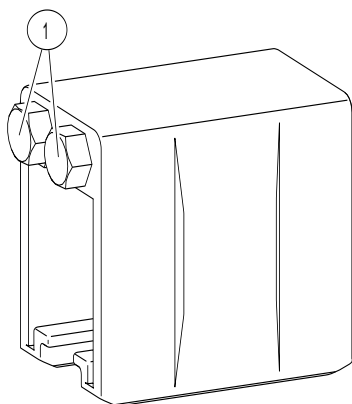

Fig. 86: Side screws on the anchor clamp
- Tighten the two side screws (Pos. 1) (see Fig. 86) on the anchor clamp with the specified torque (SW 8, torque wrench: **10 Nm**). If present, the adjusted air gap of the expansion points in the expansion unit must be checked again on the closest expansion units after the fixed point has been tightened (see Section 6.4.3.6).